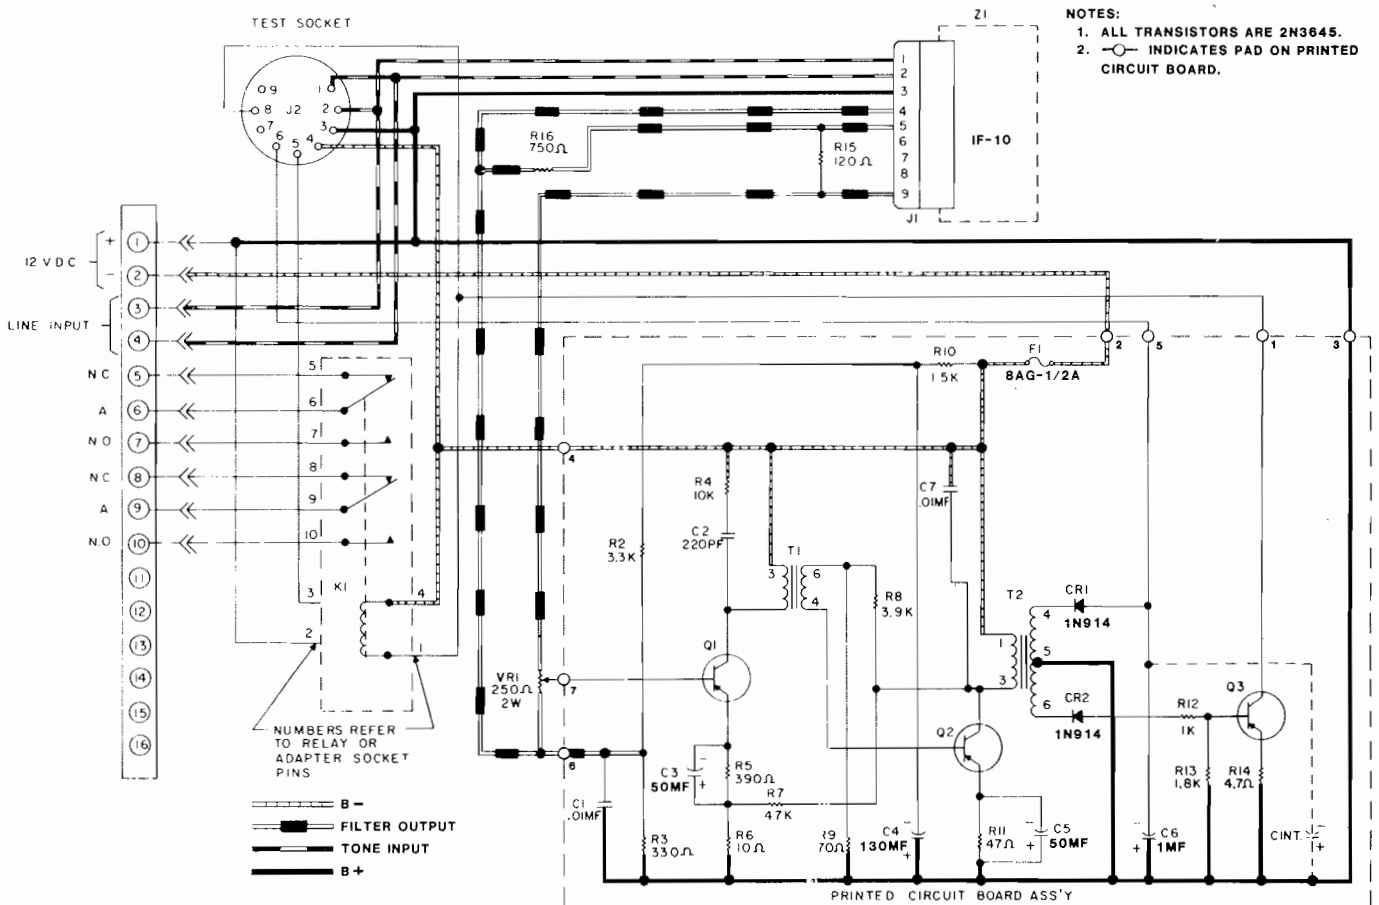

Figure 2. IR-10 AM Receiver Schematic Diagram
3.3 Noise Protection—Additional protection against erroneous response to noise can be achieved by installing an optional integrating capacitor (CINT) on printed circuit board A1 (see Figure 2). Install a capacitor of at least 200 uf, 25 volt rating, whenever the IR-10 is used for control of pumps, valves, report-back, etc. (but not telemetered functions).
4. THEORY OF OPERATIONS (See Figure 2)
5 thru 10	Output relay contacts (see Figure 2) for voltage adapter output connections refer to appropriate adapter schematic.
To improve the noise immunity of the receiver, an integrating capacitor (CINT) may be mounted on printed circuit board A1 (see Figures 2 and 4). This capacitor will introduce approximately 1.5 milliseconds of delay for each microfarad of capacitance; the recommended rating of the capacitor is given in the footnote under the tabulation is para. 3.3. When installing, observe polarity.